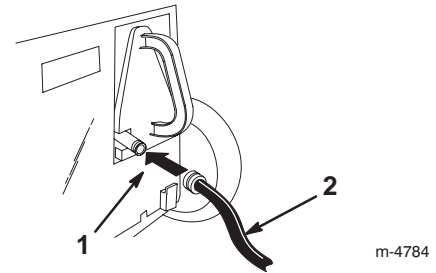

Figure 21
3. Lift the rear door and attach the coupling to the lawn mower washout fitting on the recycling plug (Fig. 21).